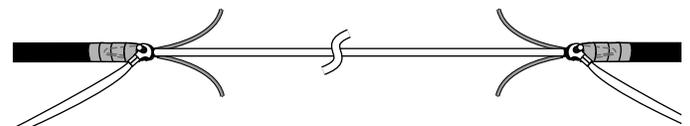

Figure 38
7.24 Ground the armor by apply grounding clips on both exposed ends as described in Section 5 (Figure 38).